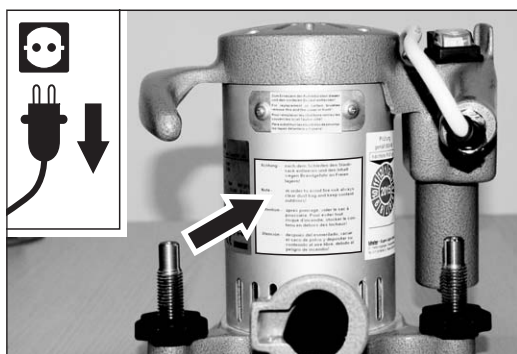

Fig. 29 Note the warning on the motor housing!
- Note the warning on the motor housing (fig. 29)!